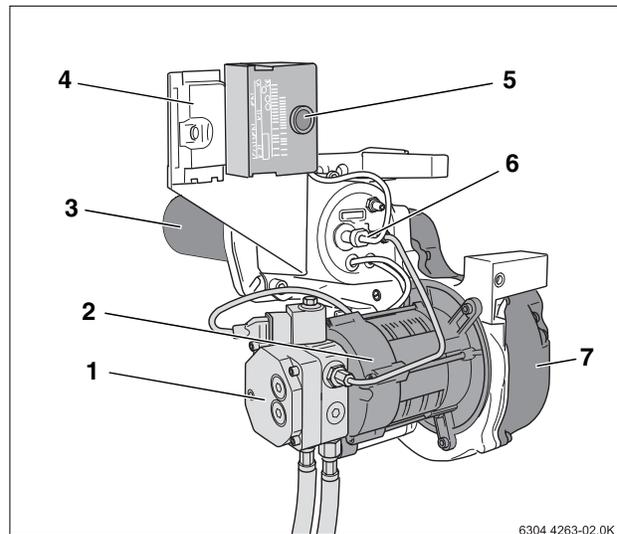

Fig. 1 Logatop BE 1.3 and 2.3 Burner
- Oil pump with solenoid valve and oil connection hoses (Fig. 1, **Item 1**)
- Burner motor (Fig. 1, **Item 2**)
- Burner tube (Fig. 1, **Item 3**)
- Automated burner controller with reset button (Fig. 1, **Item 5**)
- Flame sensor (Fig. 1, **Item 6**)
- Blower (Fig. 1, **Item 7**)
The burner (Fig. 1) is directly connected to the heating system control using the provided burner cable (7-pin burner plug Fig. 3, **Item 4**).